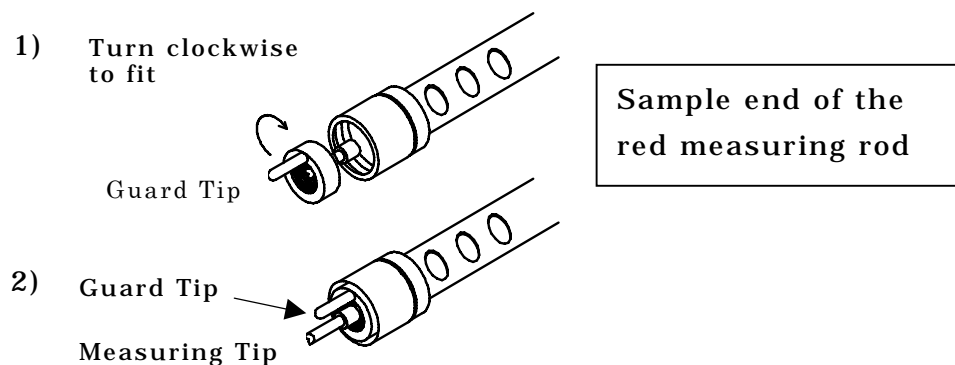
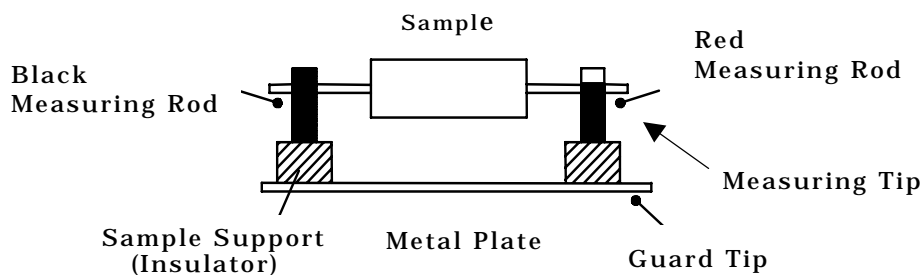

Fig. 9.1.1
Fig. 9.1.2
- (1) Before connecting the measuring plug of the red measuring rod to the Rx “-” terminals, mount the guard tip on the measuring plug as shown in Fig. 9.1.1.
- (1) Before connecting the measuring rods to the Rx -/+ measuring terminals, mount the guard tip onto the red measuring rod as shown in Fig. 9.1.1 on the previous page.
- (2) Connect the measuring rods to the Rx -/+ measuring terminals.
- (3) Connect the sample as shown in Fig. 9.1.2 below.